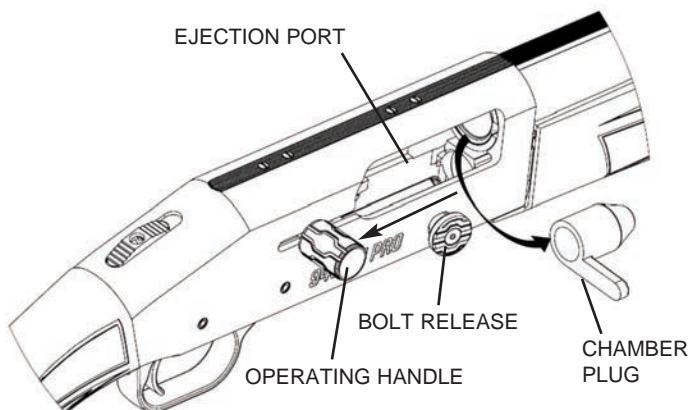

Figure 4
2. Pull the operating handle fully rearward in one quick motion. When released, the bolt will move slightly forward (towards the muzzle) and lock in the open position. (Figure 4).
Keep fingers clear of the operating handle and the ejection port when closing the action. (Figure 4)
With the safety button fully rearward in the "ON" (SAFE) position, and the muzzle pointed in a safe direction, press the bolt release until the action releases (Figure 4).